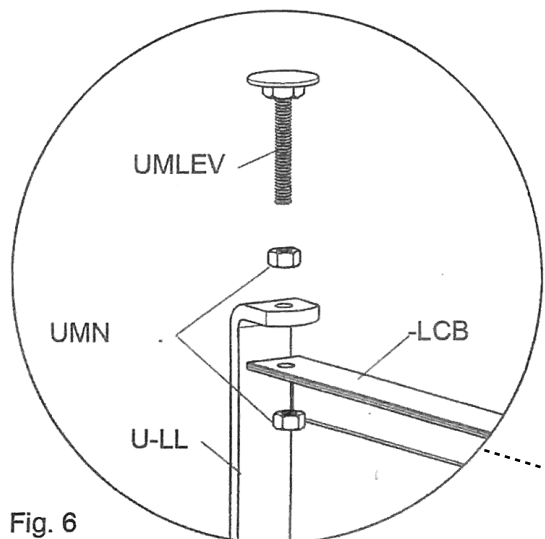

Fig. 6
14. LEG CONNECTOR BAR & LEVELERS Attach leg connector bar (LCB) using the adjustable leg levelers (UMLEV) and nylon insert locknuts (UMNNYL). See Fig. 6.